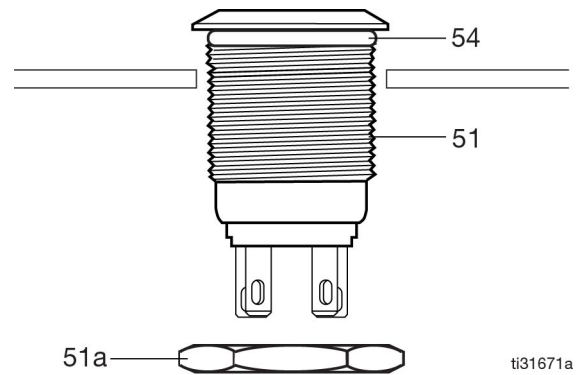

FIG. 19
2. Remove the lock nut (51a) from the push button (51). Install the o-ring (54) (FIG. 19).
3. Insert the push button (51) through the hole drilled in the panel in Step 1. Hand tighten the lock nut (1a) to secure the push button in place (FIG. 19).